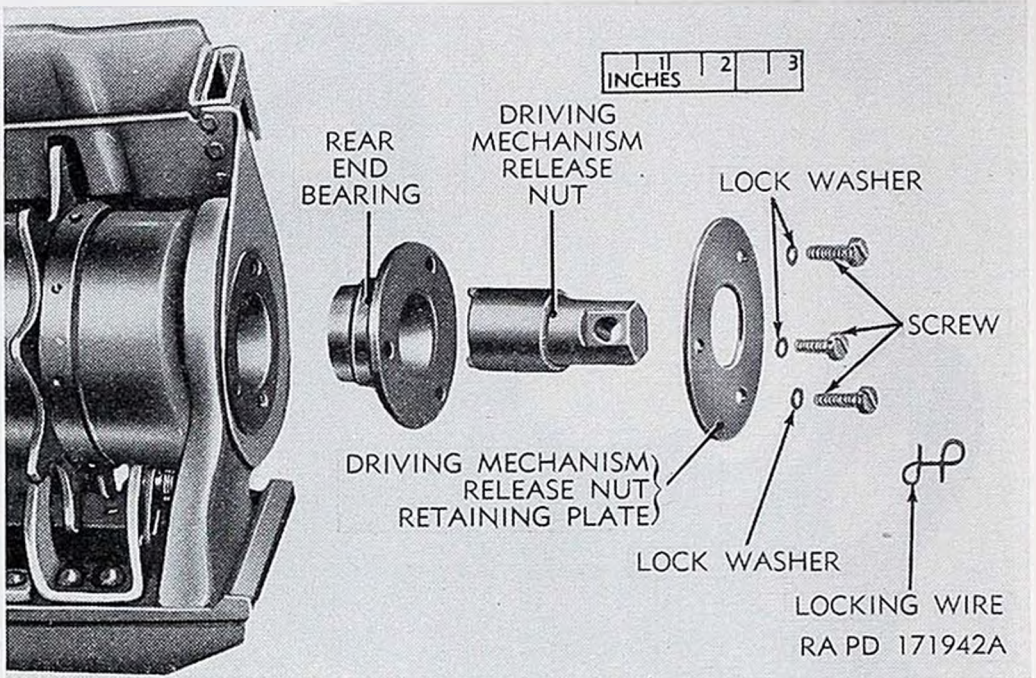

Figure 149. Parts removed from rear end of feed mechanisms M2E4 and M2E5.
a. Remove locking wire and the three screws and lock washers (fig. 149) on rear side of feed mechanism. Remove driving mechanism release nut retaining plate, driving mechanism release nut, and
rear end bearing (fig. 149). Remove heater cartridge retaining screw and heater cartridge.